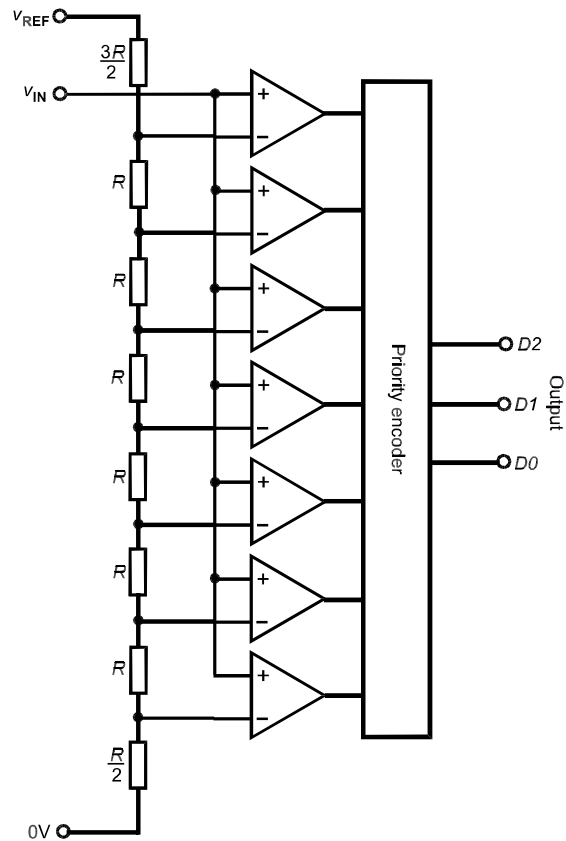

Figure 5.11 A flash analogue to digital converter is based on a chain of resistors connected to an array of comparators.
Flash converters are faster than the other types but have the disadvantage of being more expensive than other converters with comparable precision. Fig. 5.11 demonstrates why. A flash converter consists of a number of comparators connected by their inverting (–) inputs to a chain of resistors. The chain of resistors is connected at one end to 0 V and at the other end to a reference voltage. This produces a fixed range of voltages along the chain. The input voltage is fed to the non-inverting (+) inputs of all the comparators. Each comparator compares this voltage with the voltage it is receiving from the chain. The outputs of the comparators then swing either low (0) or high (1), depending on whether the input voltage is less than or greater than the voltage from the chain. The result of this is that, as the input voltage increases from 0 V, the outputs become 0000000, 0000001, 0000011, 0000111, and so on, to 1111111. There are 8 possible outputs, which are sent to a
The ADC of Fig. 5.11 has seven comparators and there are only 8 possible output readings. This has to cover the entire input range from 0 V up to the reference voltage. As a simple example, if the reference